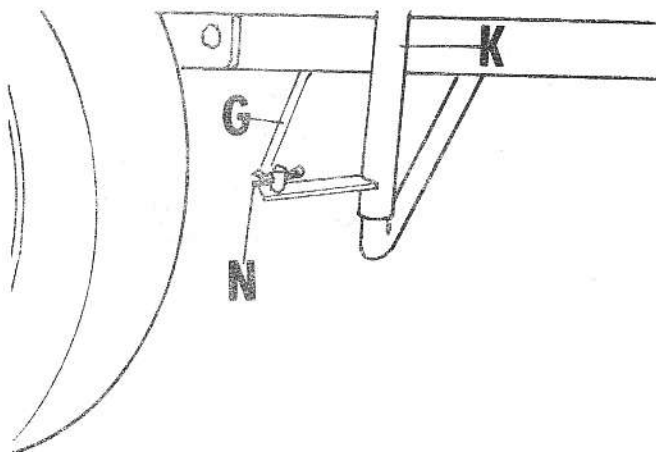

Fig. 20
To adjust pin release rod (G) remove hair pin (N) turn release rod (G) clockwise to lengthen it and counter-clockwise to shorten it. (See Fig. 20)